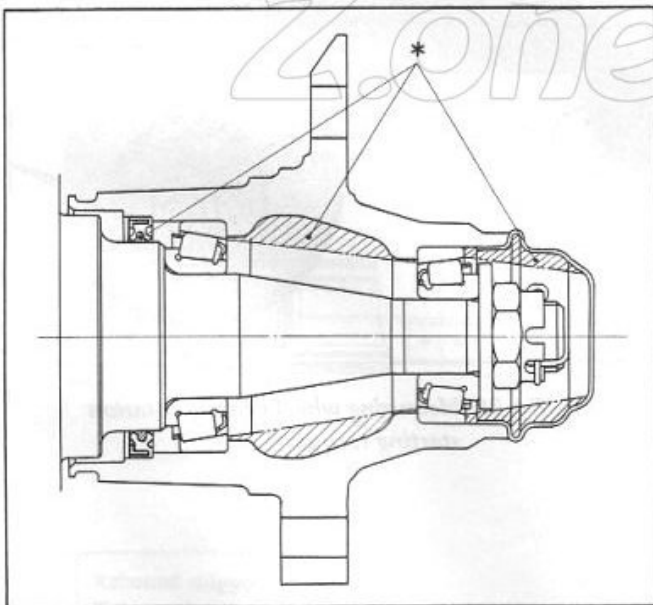

Fig. FA-20 Greasing points of hub assembly
3. Fill the wheel hub and hub cap with multi-purpose grease (MIL G2108 or 10924) up to the line indicated in Figure FA-20.